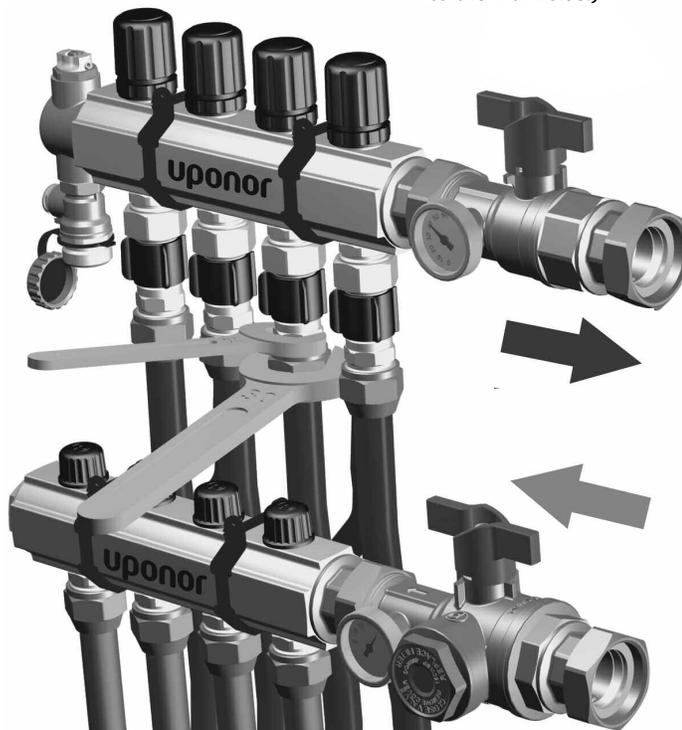

Figure 1: Installation of TruFLOW Electronic Flow/Temperature Meter
Uponor recommends using a strainer within the system such as the TruFLOW Manifold Supply and Return Ball Valves (A2631250) to keep debris from entering the flow meters. (See **Figure 1** for an example of the ball valves attached to the manifolds.)
1. Assemble the meter on the return manifold. Use an open-end wrench to keep the meter steady and to avoid excessive torque on the meter as shown in **Figure 1**.